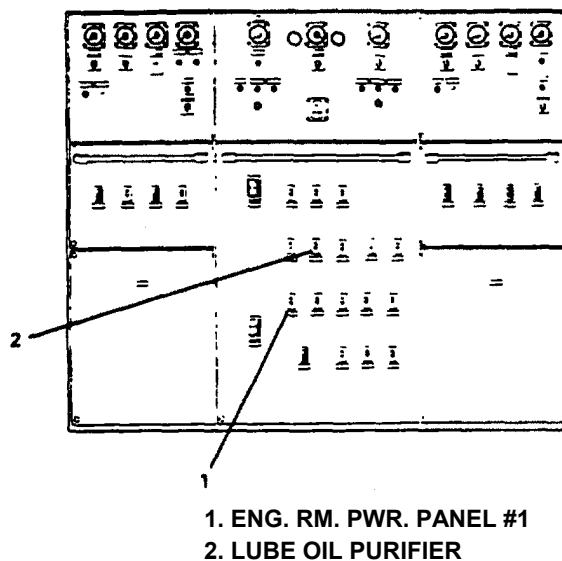

Figure 2-266. Main Switchboard.
(1) Align electrical system. On main switchboard (Figure 2-266), set LUBE OIL PURIFIER circuit breaker (2) to ON position.
(p) On main switchboard (Figure 2-266) set LUBE OIL PURIFIER circuit breaker (1) to OFF position.
(1) Tank level indicator. Ensure tank level indicator is operational (if not, refer to paragraph 2-15).
(1) Align electrical system.
(a) Main switchboard (Figure 2-266). Set ENG. RM. PWR. PANEL #1 circuit breaker (1) to ON position.